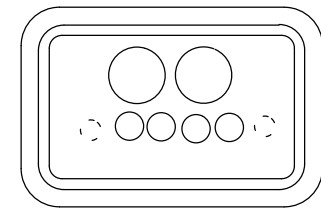

Figure 4
12. For new construction, conduit entry shall be as shown in Figure 4 on Page 5 for pedestals and Figure 8 and Figure 9 on Page 8 for splice boxes. Group conduits at one end of the box to achieve maximum cable length to avoid exceeding minimum cable bending radius.